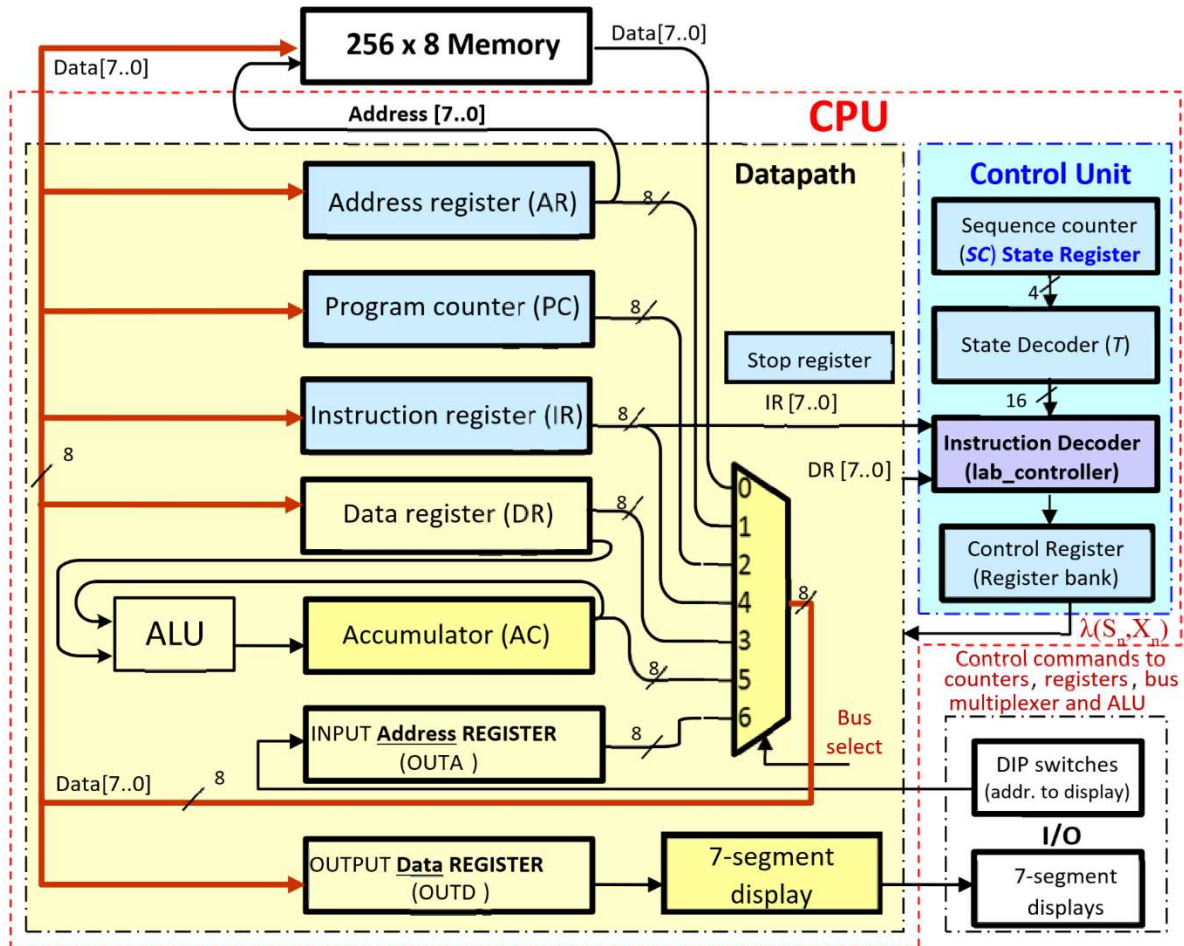

Figure 1: Computer block diagram
- The block diagram of your computer is presented in Figure 1. The schematics diagram (.bdf) files of all the component blocks, except the Instruction Decoder (lab_controller.bdf), will be provided.
- The Control Unit functions according to a time sequence, which is generated by the sequence counter (SC). The time sequence plays the role of FSM state register. SC initial state is 0; it restarts counting from 0 at the beginning of each instruction and it is reset to 0 once that instruction execution is finished.